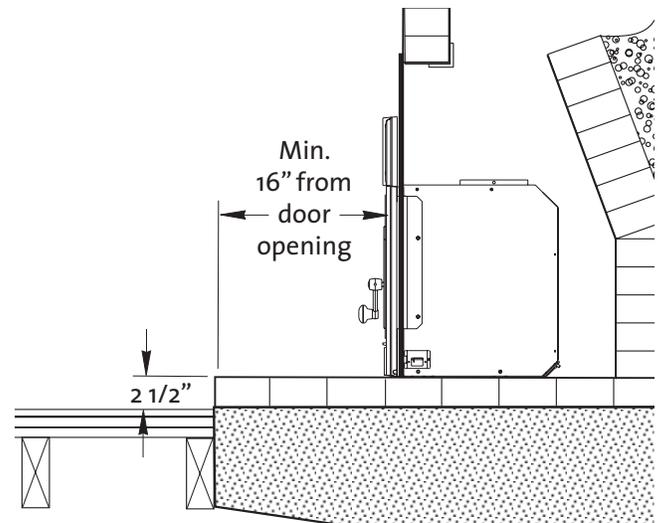

Figure 4a. Minimum raised hearth requirement. Riser Bar not required.
- **Raised Hearth:** Where the hearth construction is a minimum of 2 1/2" thick, the insert may be installed without use of the Riser Bar. See fig. 4a.